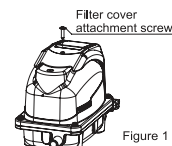

Figure 1
- ①Unplug the power before working.
- ②Remove the filter cover attachment screw. (Figure 1)